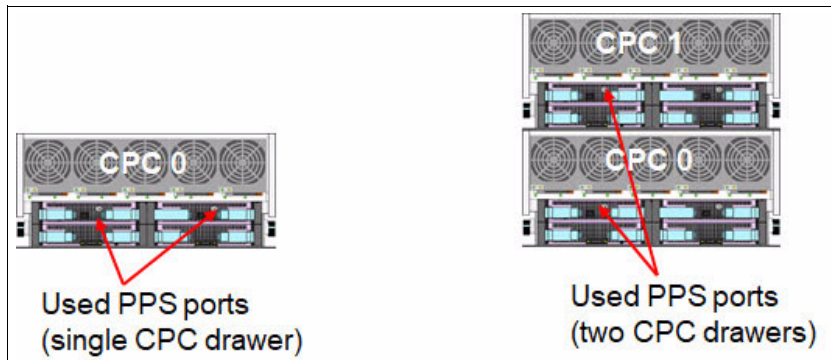

Figure 2-11 Recommended PPS cabling
- The following PPS plugging rules apply (see Figure 2-11):